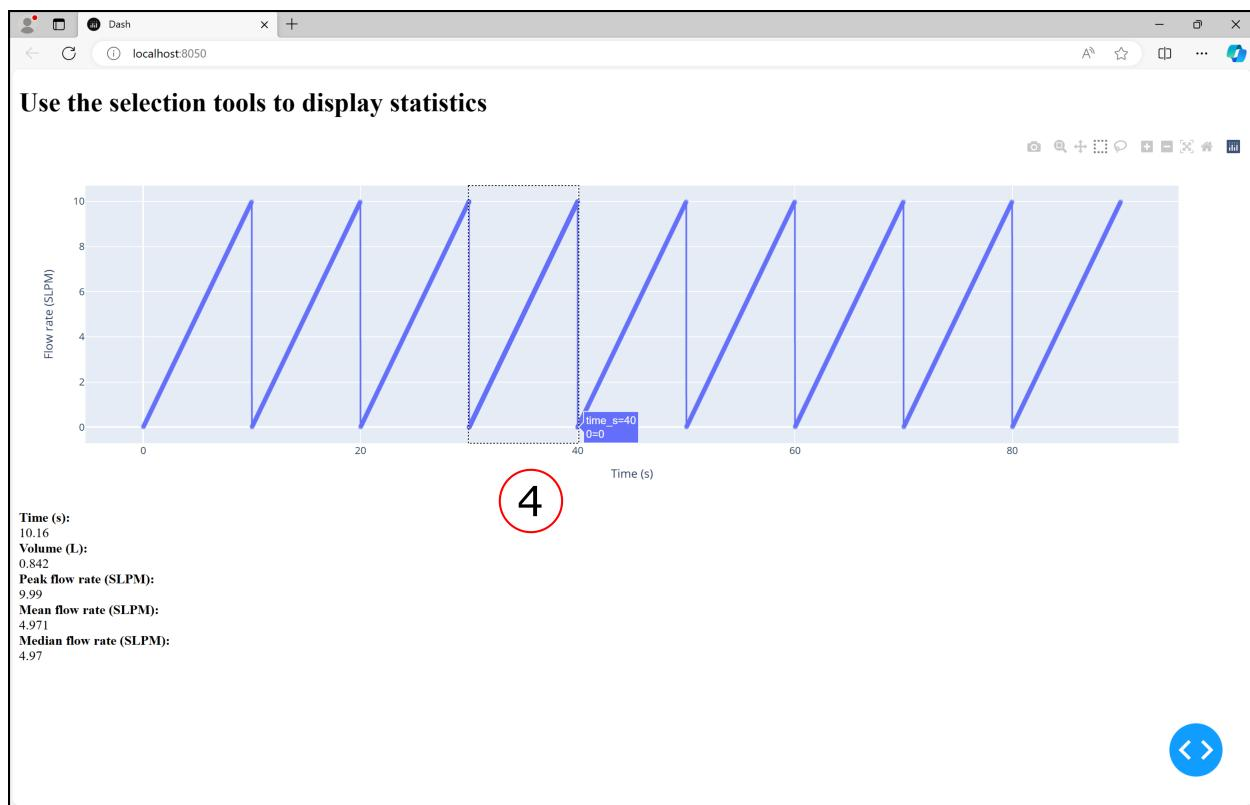

Figure 20: Select a region to calculate and display its statistics.
- Use the selection tools to highlight a region of interest. By using the rectangle selection tool, you can select an entire y-range by clicking and dragging only left or right. (**Figure 20**).